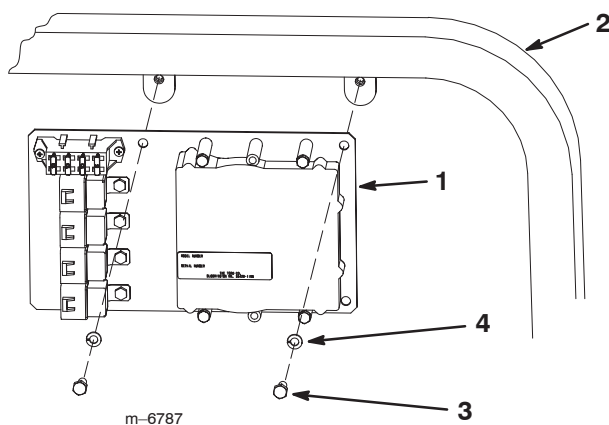

Figure 5
- A. For the Multi-Pro 1200 and 1250, install the mount plate using 2 bolts (5/16 x 3/4 inch) and 2 lock washers (5/16 inch) as shown in Figure 5.